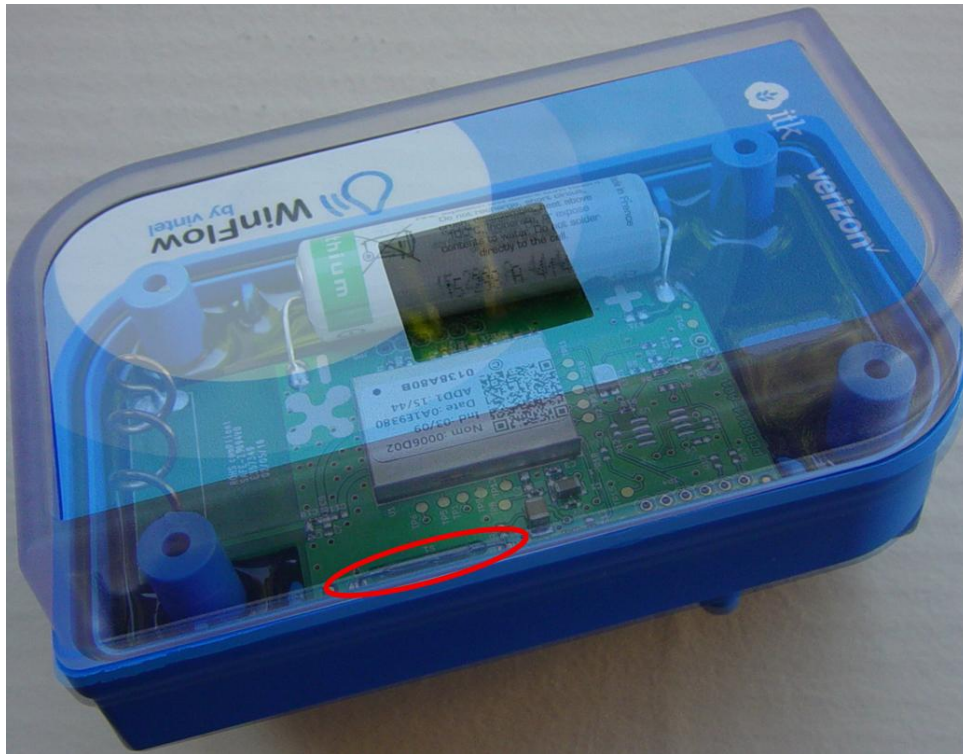
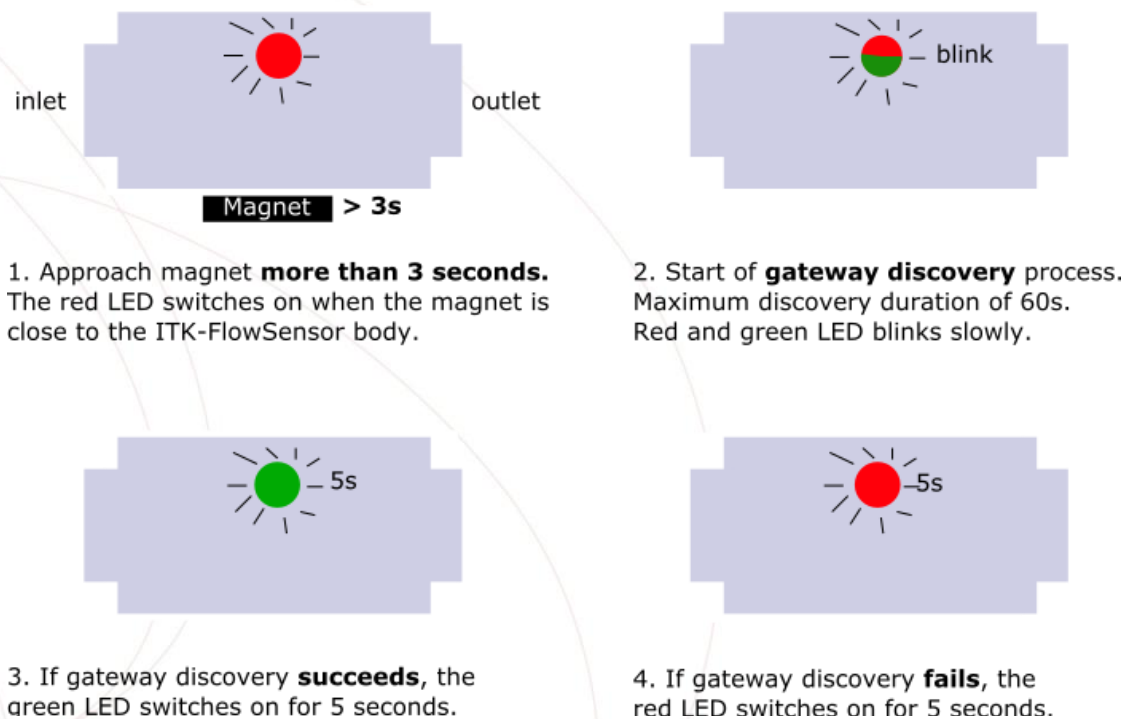

Figure 1. Magnet must be placed on the blue part of the flow sensor body, in front the “reed switch”.
Figure 2. Gateway discovery
The gateway discovery is launched by approaching a magnet (included in the pack) close to the flow sensor body, as shown on Figure 1 and Figure 2. After gateway discovery (max 60 sec), a first “heartbeat” message is sent by the AgTech gateway to the distant application server. The flow sensor is then definitely paired to the AgTech gateway.^{1 2} If the gateway discovery fails, see **Troubleshooting** section.
- Check that the magnet is placed on the right part of the flow sensor body as shown on Figure 1.
If the red LED stays on for 5s at the end of the gateway discovery, it means that the flow sensor was not able to successfully be paired with an AgTech gateway (Figure 2). Possible reasons are: